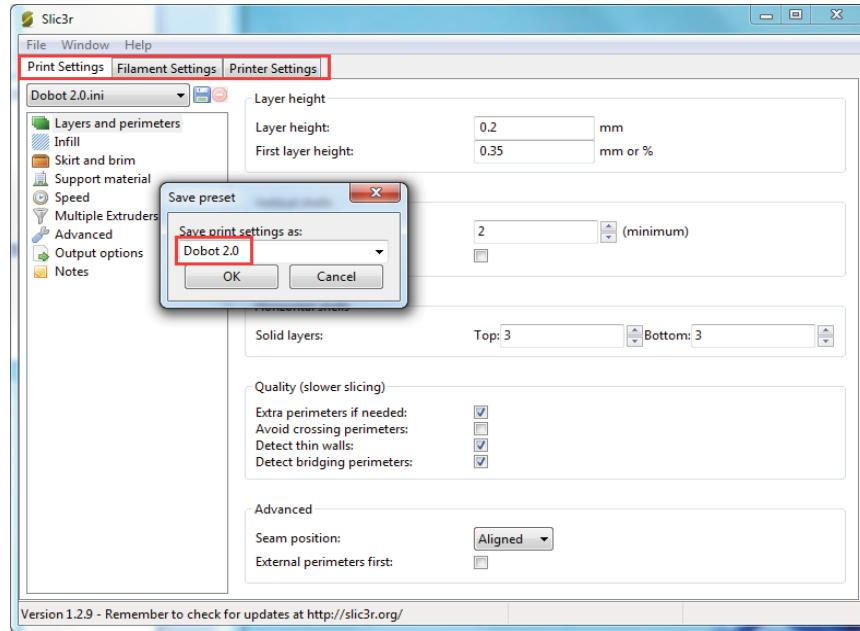

Figure 5.141 Save configuration file
- Save the **Printing Settings**, **Filament Settings** and **Printer Settings** tabs respectively after importing configuration sample, as shown in Figure 5.141.